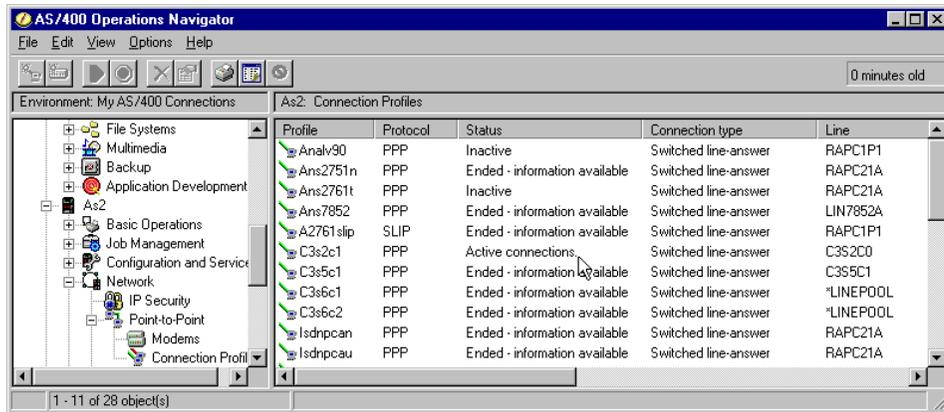

Figure 74. Status after starting the profile on AS2
2. Check the status after starting the profile on AS2 (Figure 74).